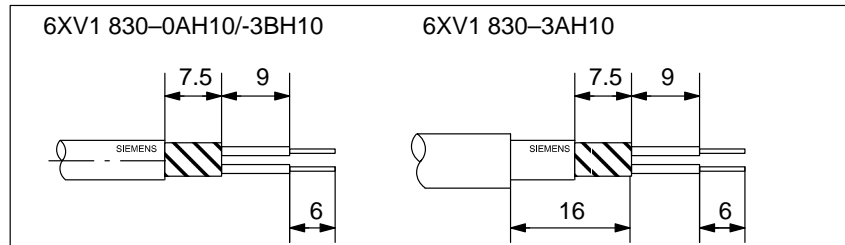

Figure 7-13 Lengths of Stripped Insulation for the Connection to the Bus Connector 6ES7 972-0B.10-0XA0
2. Strip the insulation off the bus cable as shown in Figure 7-13.